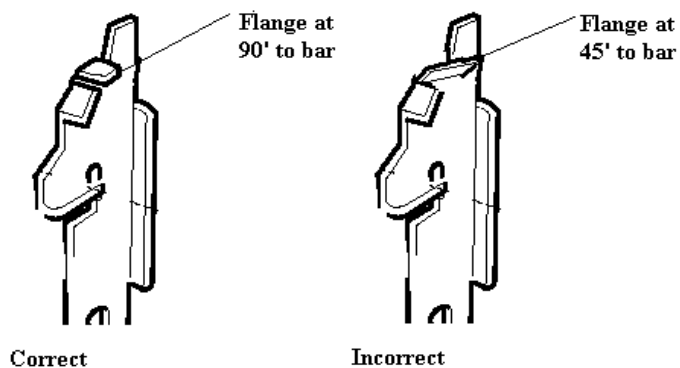

Figure1
Step 1) The flange on the upper lock bar should be reformed so that the upper edge is at a 90' angle in respect to the lock bar itself. (See figure 1)